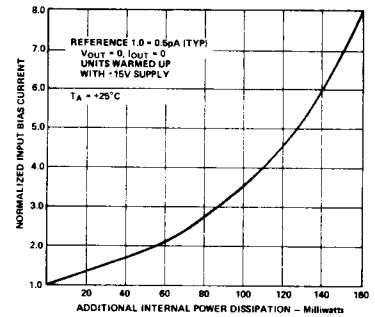

Figure 9. Input Bias Current Versus Additional Power Dissipation
3. Output loading effects, which are normally ignored, can cause a significant increase in chip temperature and therefore bias current. For example, a 2kΩ load driven at 10 volts at the output will cause at least an additional 25 milliwatts dissipation in the output stage (and some in other stages) over the typical 24 milliwatts, thereby at least doubling the effects of self-heating. The results of this form of additional power dissipation are demonstrated in Figure 9, which shows normalized input bias current versus additional power dissipated (it doubles every 10°C); we recommend restricting the load impedance to be at least 10kΩ.